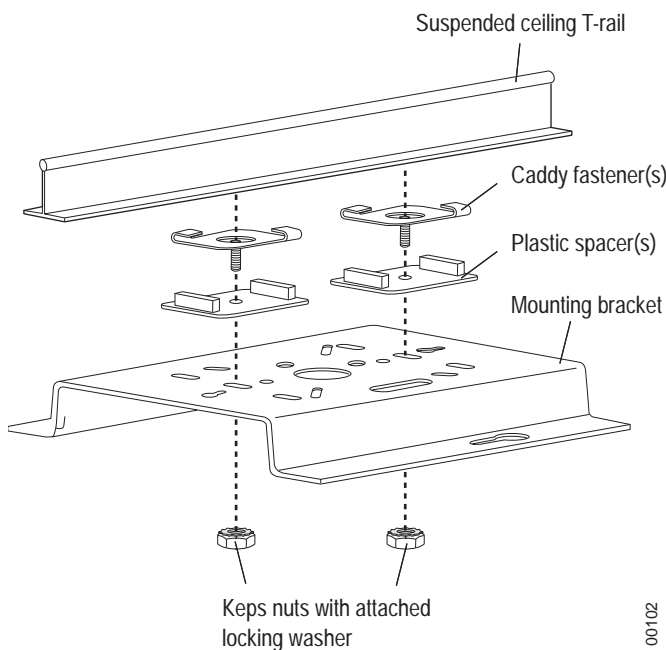

Figure 10: Mounting the AP200 to a Suspended Ceiling Rail
The optional suspended ceiling mounting kit allows the AP200 mounting bracket to attach to suspended ceiling T-rails (see Figure 10).
7. Adjust the height of the box hanger using the height adjusting screws (see Figure 10).